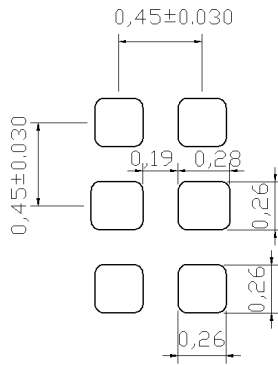

Figure 8
- ◆ The stencil opening size is recommended in Figure 8.